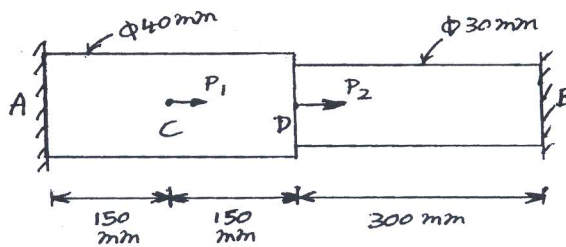

Fig Q2(c)
- c. A stepped bar of steel, held between two supports as shown in Fig Q2(c), is subjected to loads  $P_1 = 80\text{kN}$  and  $P_2 = 60\text{kN}$ . Find the reactions developed at the ends A and B. (06 Marks)